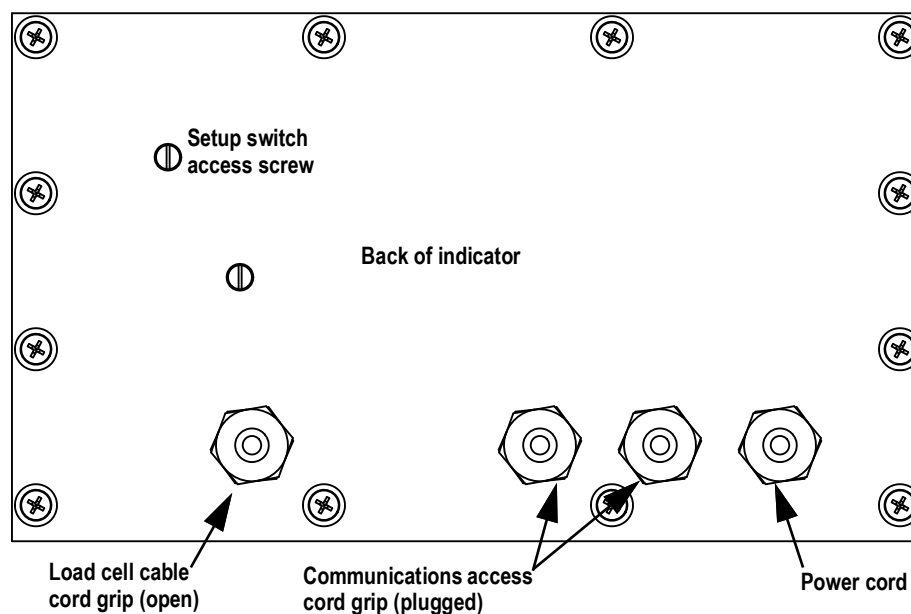

Figure 2-1. Recommended Cord Grip Assignments
1. Remove the setup switch access screw from the back of the enclosure, See Figure 2-1 on page 17.
The 480 provides four cord grips for cabling into the indicator: one for the power cord, three to accommodate load cell, communications, digital inputs and outputs, and analog output cables. Two of the three free cord grips come with a plug installed to prevent moisture from entering the enclosure. Depending on the application, remove the plug from another cord grip that will be used and install cables as required, See Figure 2-1 for the recommended assignments for the 480 cord grips.